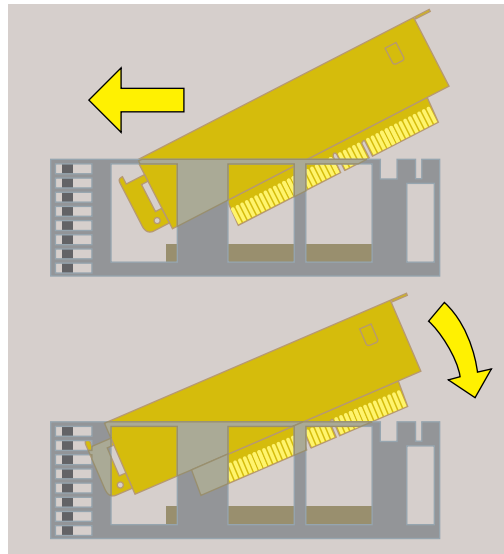

Figure 5-7 Replacing the PCI Tray in the System Module
9. Reinstall the PCI tray in the system module (Figure 5-7).
- Lower the tray and insert the connector into the slot, pushing toward the back of the module as you do this (Figure 5-7).